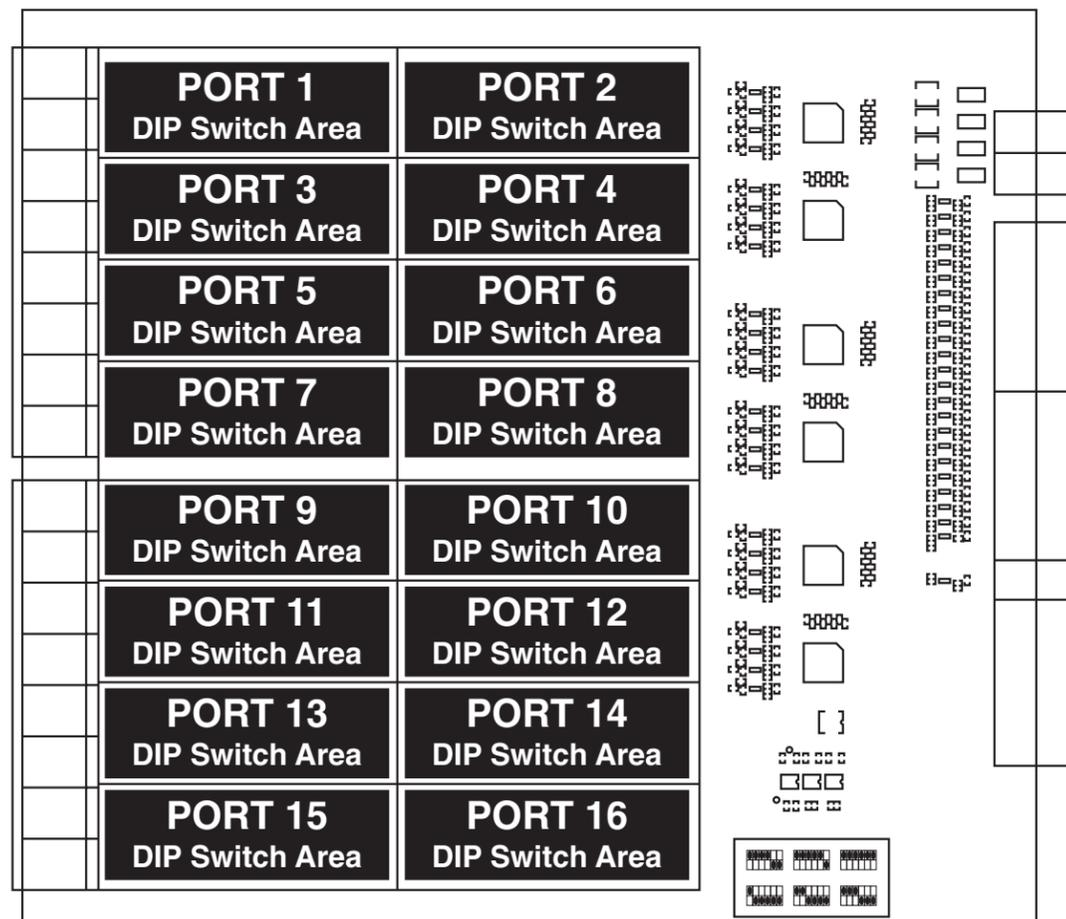
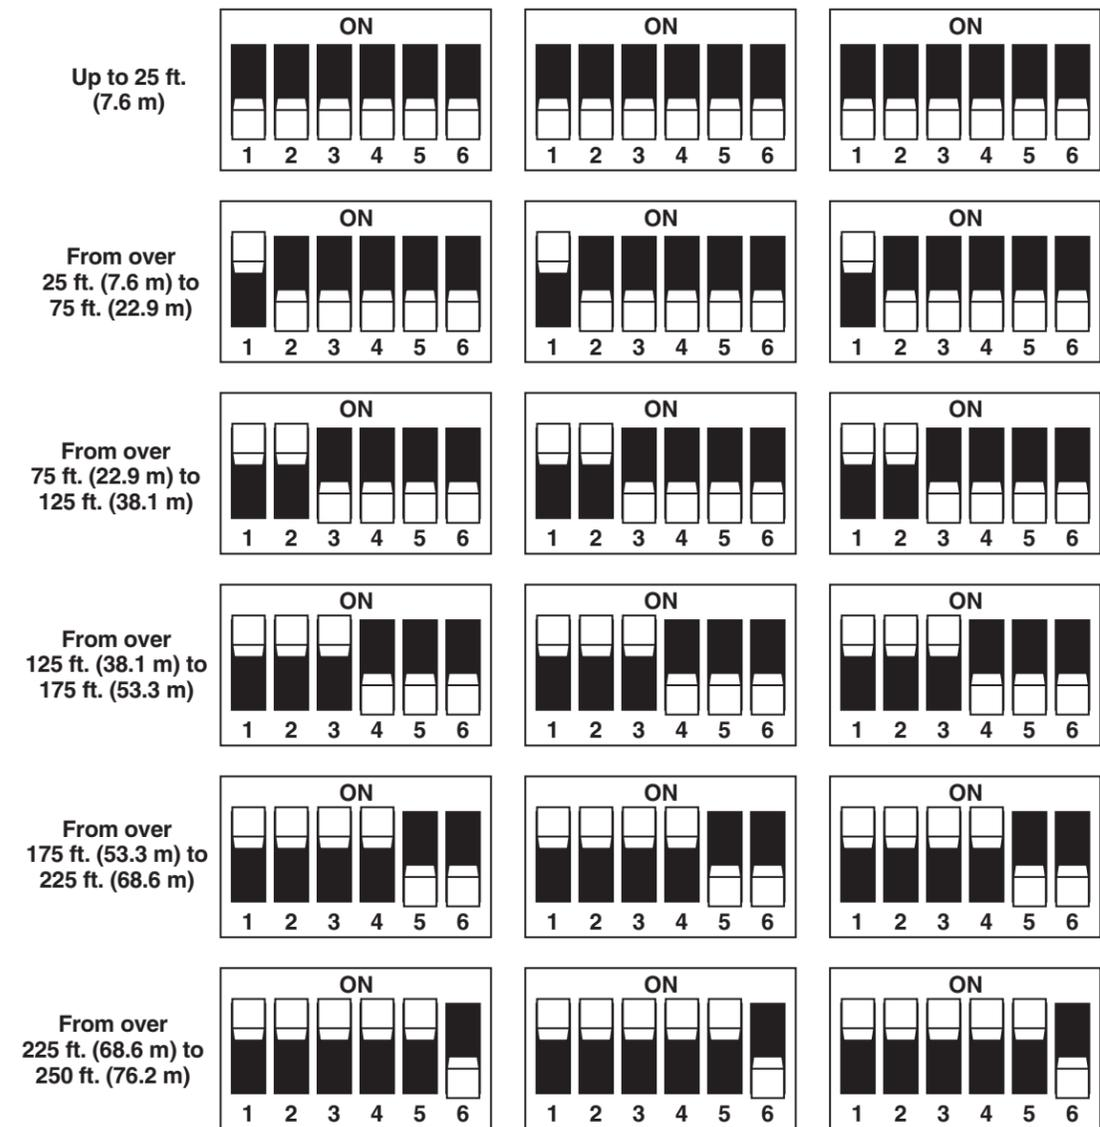
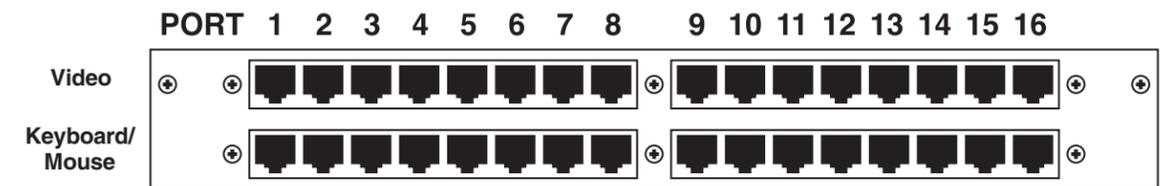

Figure 1. The DIP-switch areas on the Transmit Module's circuit board.
Figure 2. The Transmit Module's possible DIP-switch settings.
Figure 3. The port layout of the Transmit Module.
- Next you will need to configure the DIP switches on your Transmit Module. The Module has sixteen dual-RJ-45 Transmit ports on it, numbered 1 through 16 from left to right, as shown in Figure 3 on the next page. Each port has three six-position DIP switches that you need to set for the length of the Category 5 cable that will be attached to the port. The locations of these DIP switches are shown in Figure 1, and their possible settings are shown in Figure 2 on the next page. For any given Transmit port, leave all of the switch positions set to OFF if the cable you'll be attaching to that port isn't more than 25 ft. (7.6 m) long. If the cable is longer, move a position of each switch to ON for each 50 ft. (15.2 m) longer, starting with the leftmost position and working toward the right. For example, set the leftmost position ON if the cable is between 25 and 75 ft. (7.6 and 22.9 m) long; set the two leftmost positions ON if the cable is between 75 and 125 ft. (22.9 and 38.1 m) long; and so on, up to a maximum of 250 ft. (76.2 m), which is the greatest length of CAT5 expansion cable that the ServSwitch Multi system can support.